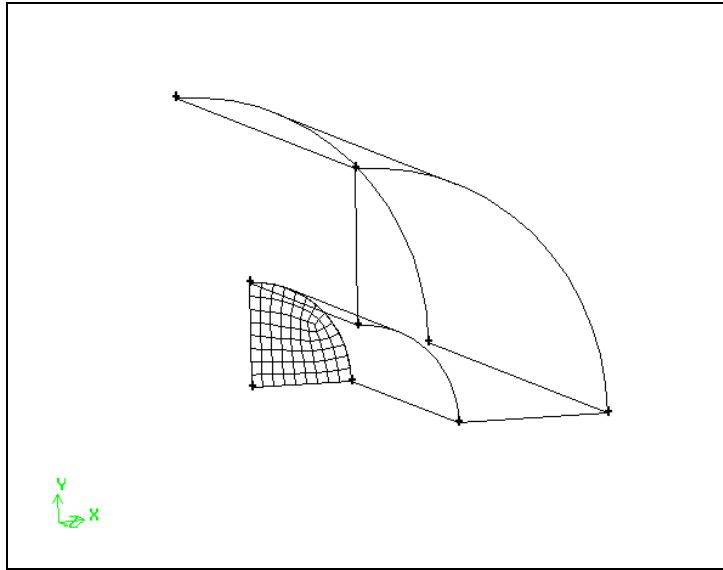

Figure 4-28: Mesh on small face
*The face will be meshed as shown in Figure 4-28.*